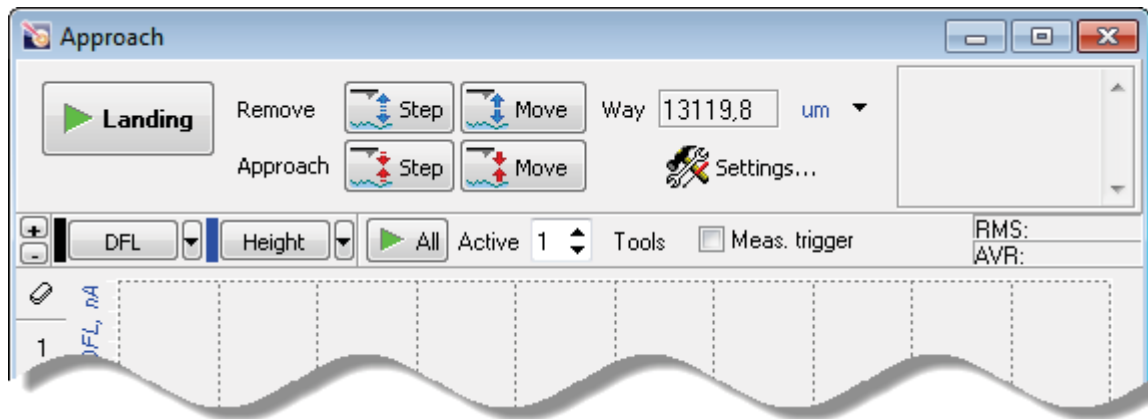

Fig. 6-10. Approach window
1. Open the **Approach** window (Fig. 6-10) by clicking the  button in the Main Operations panel of the Main Program window.